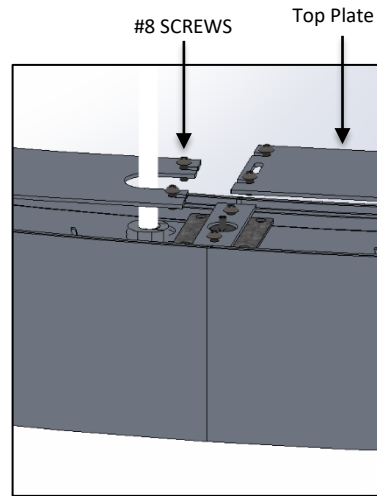

FIG. 25 – TOP PLATE INSTALLATION
25. Install the 8 Aluminum TOP PLATES with the #8 screws provided as shown in FIG. 25.